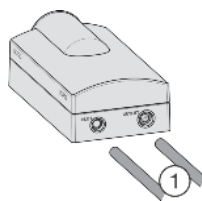

Fig. 60
- ▶ On the thin hose, measure the insertion depth (E) of 21/32" (17 mm) and mark it.
- ▶ On the thick hose, measure the insertion depth (E) of 25/32" (20 mm) and mark it.
- ▶ Insert the hoses *Fig. 60 (1)* all the way into the water filter module (i.e., up to the mark you made), past the point of resistance.